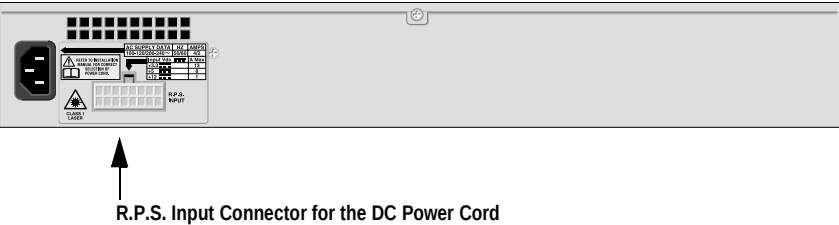

Figure 5 Back Panel of the Ethernet Switch
5. Connect the other end of the DC power cord to the R.P.S. Input connector on the back panel of the Ethernet switch. (Refer to Figure 5 for the R.P.S. Input connector.)
4. Attach the other end of the DC power cord to the R.P.S. Input connector on the back panel of the Ethernet switch. (Refer to Figure 5 for the R.P.S. Input connector.)